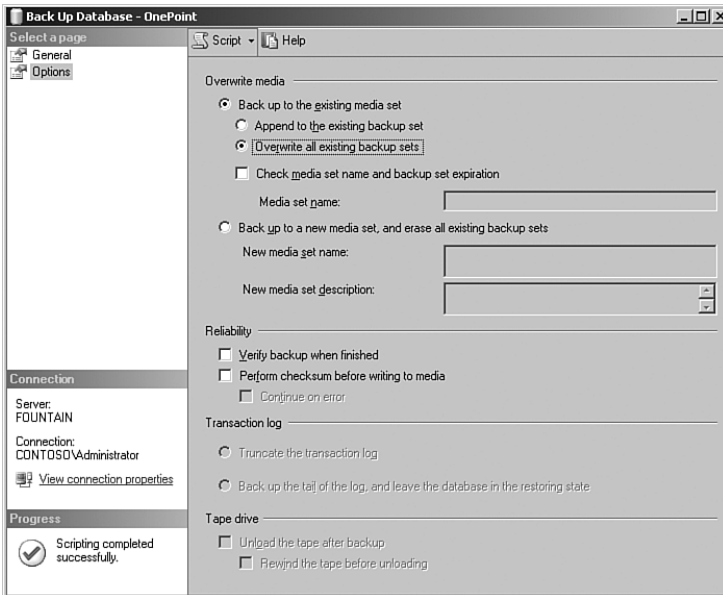

FIGURE 12.13 The backup options page.
- After specifying the general requirements for the backup, it is time to move to the Options page shown in Figure 12.13. You must decide whether you will overwrite the file (backup set). By default, SQL Server appends the current backup to the end of the backup file if it already exists. Alternatively, you can overwrite (replace) the file. The option to truncate the transaction log is grayed out because SQL Management Studio will not let us truncate the log when the database recovery type is defined as simple. We will have to add a step to truncate the log manually.
6. Selecting the Script option at the top of Figure 12.13 generates Transact SQL code you can use to schedule the backup rather than having to return to SQL Management Studio each time you want to back up the database. (After the script is generated, the progress shows that scripting completed successfully.)